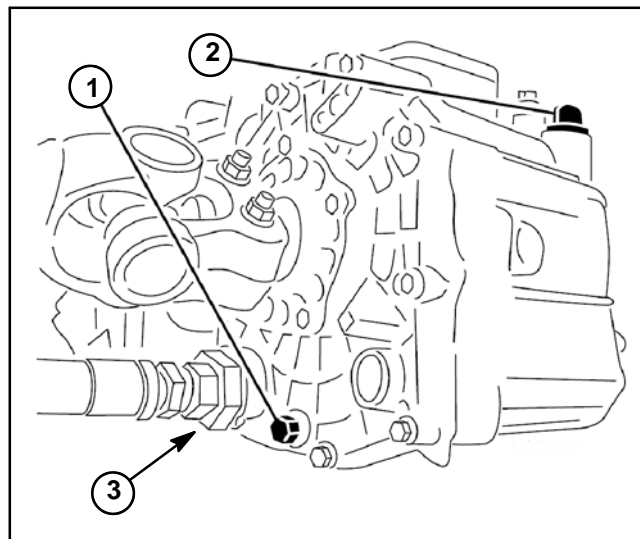

Figure 17
3. Remove drain plug from transaxle (Fig. 17) and drain transaxle into a suitable container.